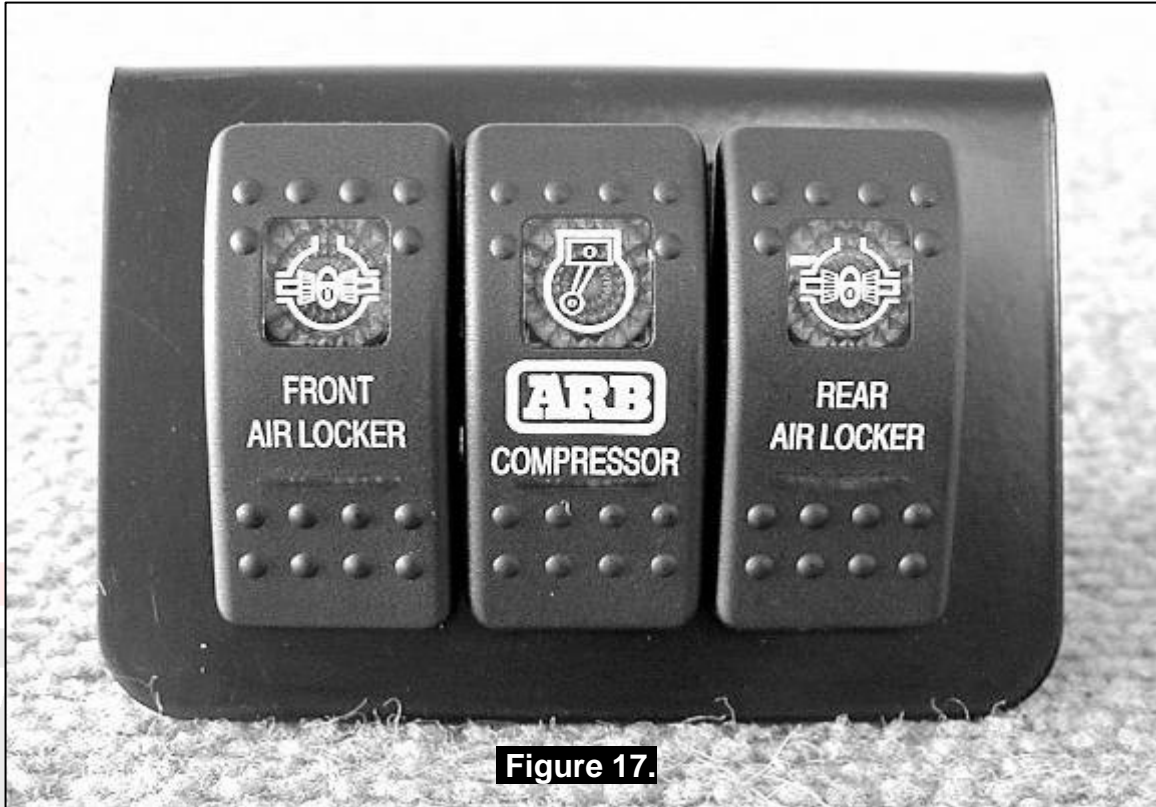

Figure 17.
**NOTE :** If no adequate position can be found on existing dashboard panels, a surface mounted bracket (Fig. 17.) may be purchased from your *ARB Air Locker* distributor to suit 1, 2, or 3 switches.